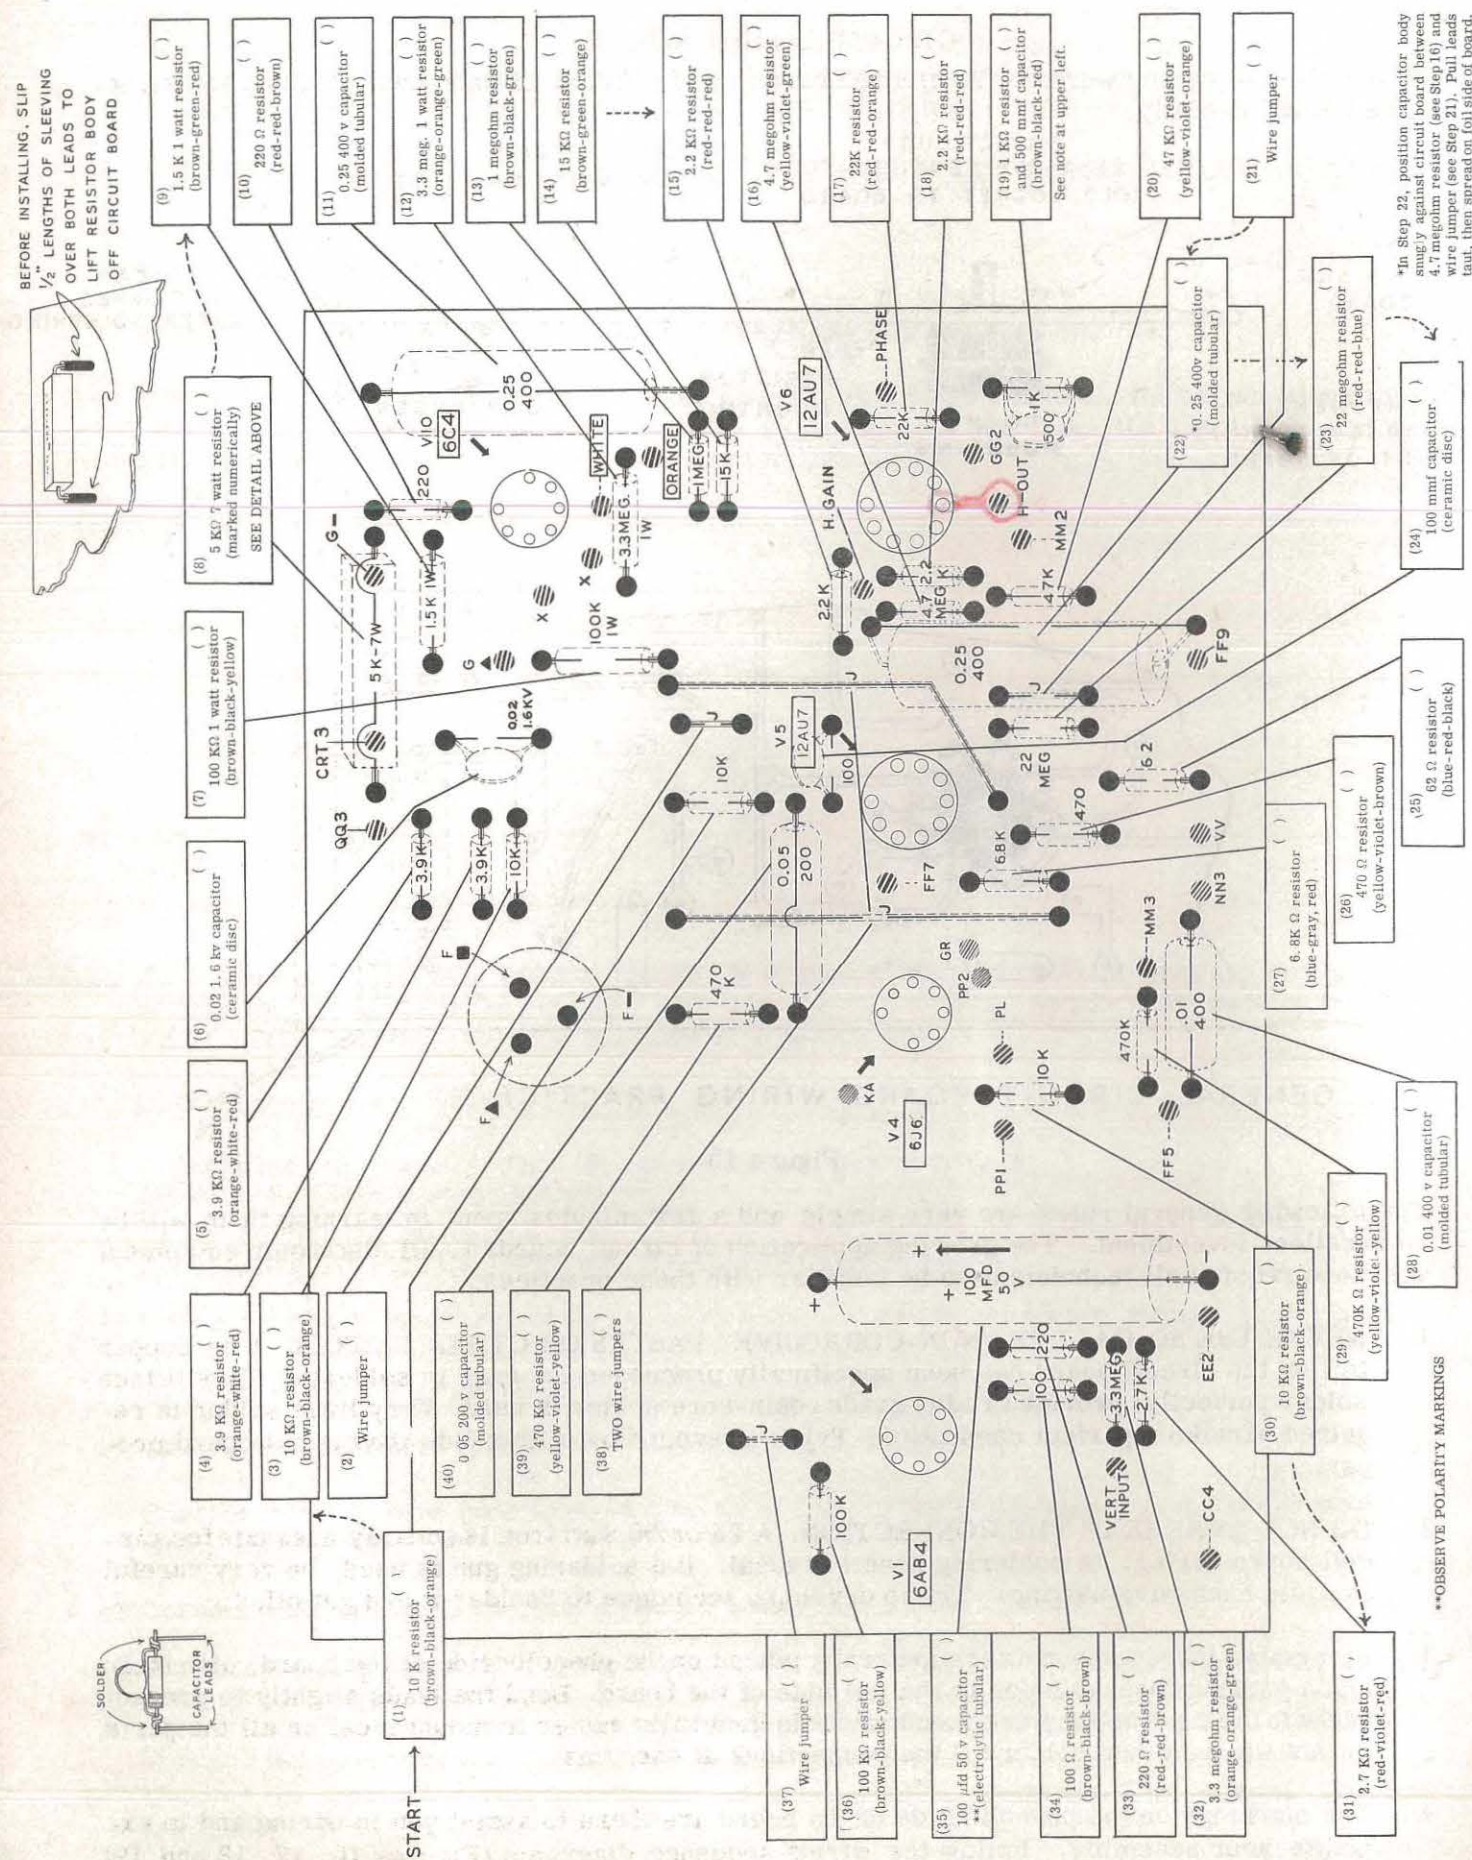

Figure 16
4. The markings on the phenolic side of the board are there to assist you in wiring and to expedite your assembly. Follow the wiring sequence diagrams (Figures 16, 17, 18 and 19) so that no parts or jumpers are omitted.
Figure 16 is the wiring sequence diagram for the front circuit board. Start with Step 1, in the upper left corner and follow the numbered operations around the board in clockwise order. Observe the special instructions for mounting the 5 K Ω 7 watt resistor in Step 8. This part is mounted above the circuit board to provide for better heat dissipation. DO NOT CONFUSE 1/2 WATT AND 1 WATT RESISTORS. Be sure to use the part called out. In most cases, the lead holes are spaced precisely to accept the leads of the component when they are bent sharply down as near the component body as possible. IF THE PART DOES NOT SEEM TO MATCH THE HOLES, RECHECK YOUR WORK. It is very possible that the part is not the proper one. Slip both leads through the holes, spread them slightly to prevent the part falling out, but DO NOT CUT OFF EXCESS LEAD LENGTHS AT THIS TIME.
AFTER the operations outlined in Figure 16 have been completed: *oh*